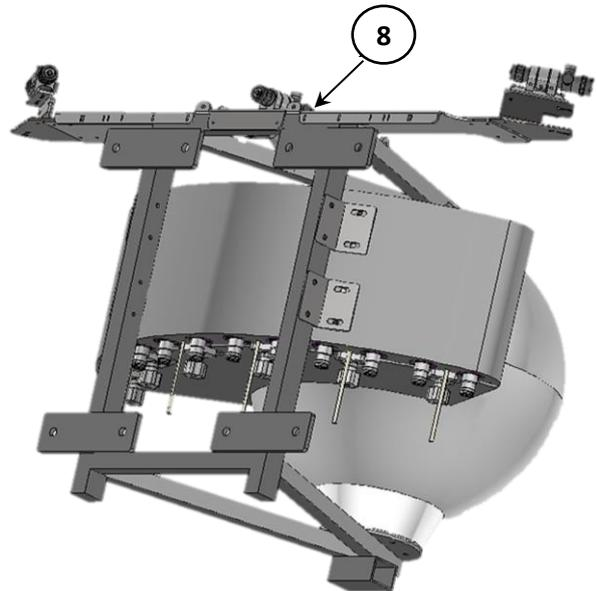

Figure 13: SLP Tightening
Step 8: Ensure seated flat, tighten the clamps and secure firmly. (Figure 13.)